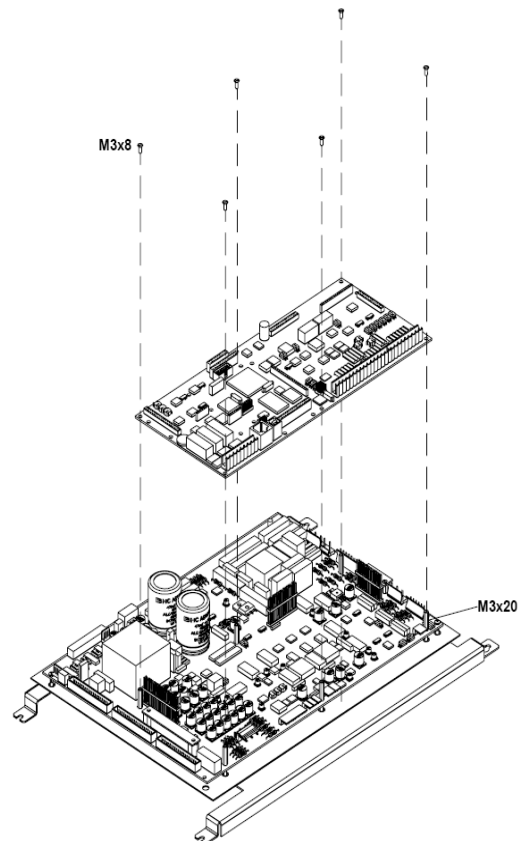

Figure 7.1.6 Remove the control board
See the figure 7.1.6 while reading the following instructions:
- 4) Put the new control board in the same place than the replaced one, matching the board holes with the hexagonal plastic spacers **M3x20** (see figure 7.1.6).